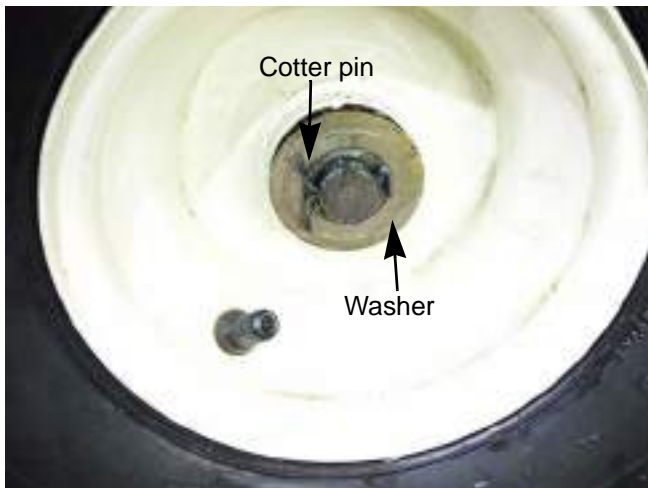

Figure 6A.79
4. Remove the washer. See Figure 6A.79.